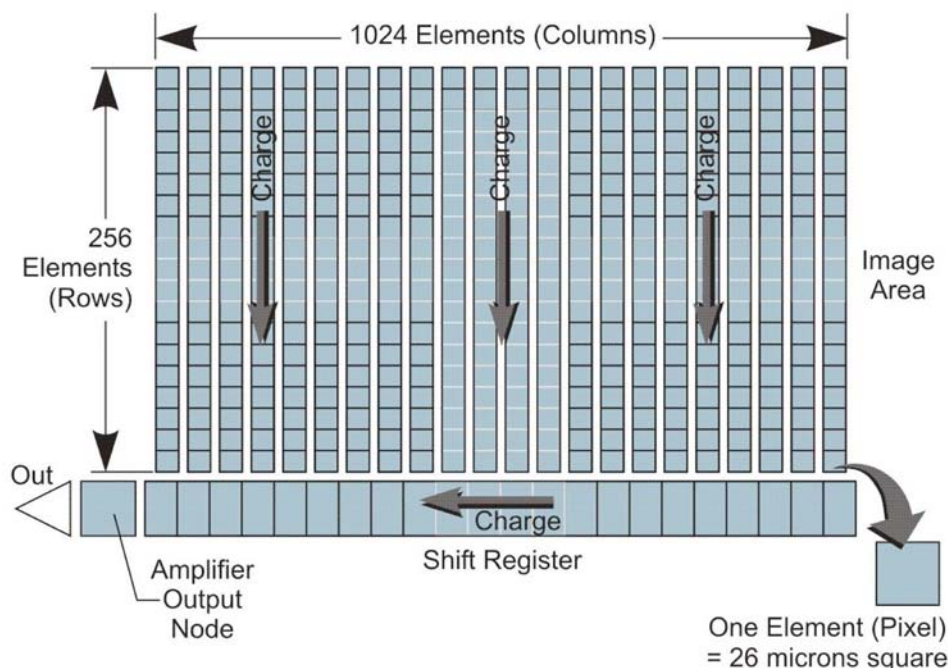

FIG. 3 Typical 1024 × 256 (26 × 26  $\mu\text{m}^2$  pixel) Element CCD Sensor Used for Spectroscopy
**charge-coupled device (CCD)**, *n*—a silicon-based semiconductor chip consisting of a two-dimensional matrix of photo sensors or pixels (see Fig. 3).
eliminate image smear (see Fig. 3).